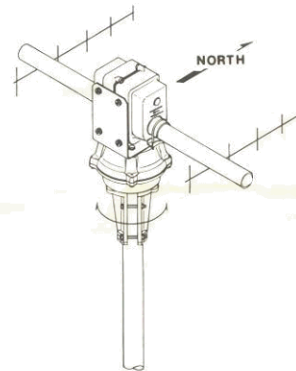
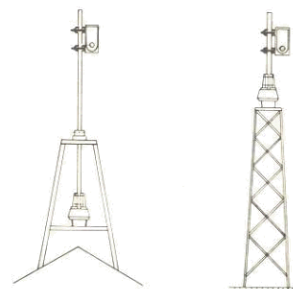

Fig 6
Fig 8
4. Install the mounted rotor units to a supporting mast with using the mast clamp which is provisionally attached to bottom side of AZIMUTH rotor unit, and fix the rotator units to the supporting mast. At this time, it must be adjusted to face the antenna beam to the NORTH supposing an antenna has been installed. (Please refer to Fig.6)
7. Again, depress the LEFT(CCW) switch and RIGHT(CW) switch alternately, and be sure that if the rotor direction should coincide with the meter indication. In the same way, be sure of ELEVATION rotor.
8. Except in the above mentioned installation, other installation as shown in Figure 8. Require the use of the boom mast clamp for ELEVATION rotor unit.